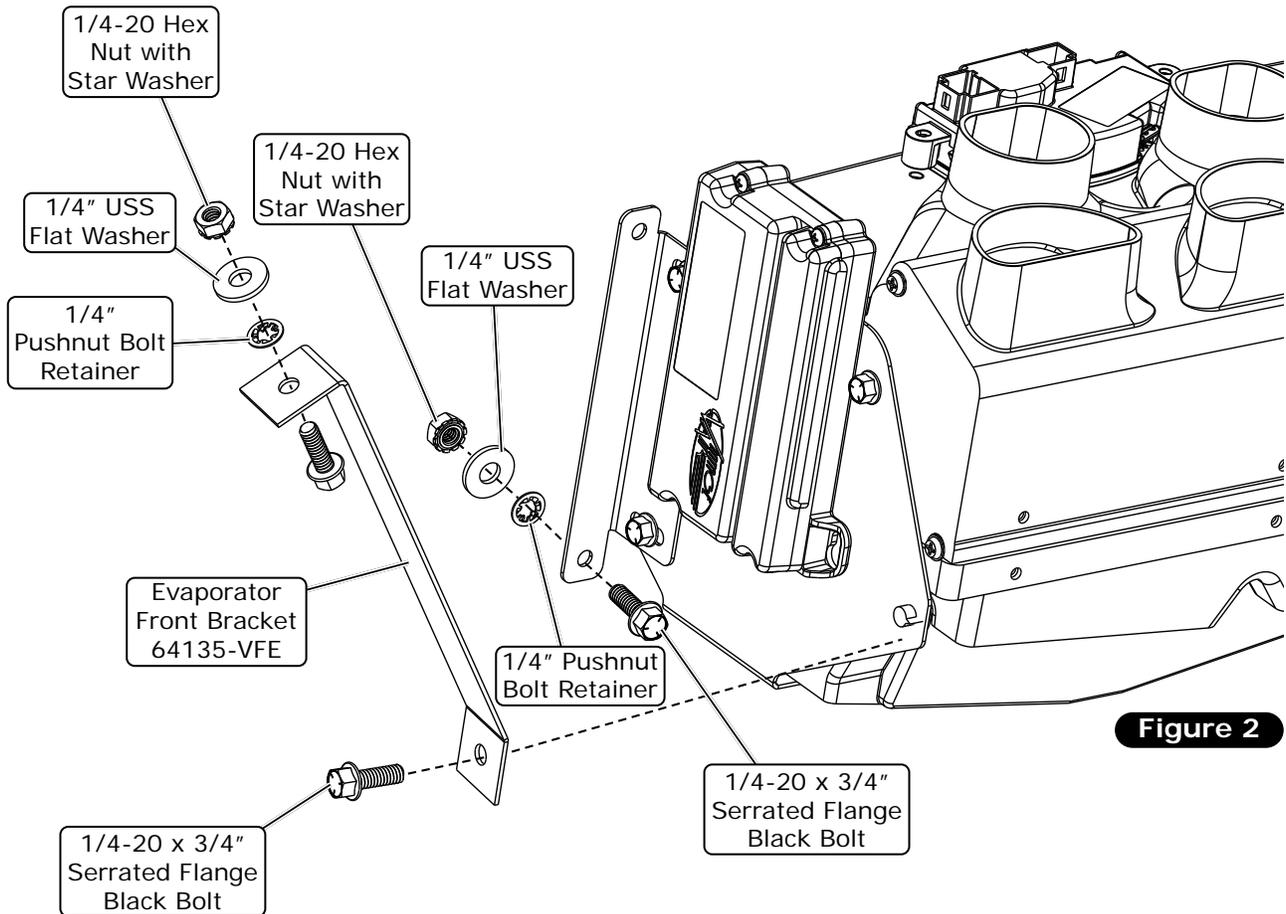

Figure 2
6. Have a helper hold the module up as high as possible, with the blower housing against the passenger-side kick panel. Locate the bracket on the right side of the blower housing with a hole above and below the blower. Scribe through the upper 1/4" hole in the bracket to mark the firewall. Check to see if the location you marked looks correct and will clear obstructions on both sides of the firewall. If so, drill a 9/32" hole in the firewall. Align the evaporator to the firewall by the upper hole of the blower motor bracket with a 1/4-20 x 3/4" bolt, pushnut, washer and nut as shown in Figure 2, Page 11. Level the evaporator module, and use the 1/4" hole in the evaporator driver-side bracket as a guide, mark and drill a 9/32" hole in the firewall. Attach this bracket to the firewall with a 1/4-20 x 3/4" bolt. This will locate the evaporator horizontally. Drill (2) more holes in the firewall using the lower hole in both brackets to mark the centers.
7. The 1/4-20 x 3/4" serrated flange black bolt, 1/4" pushnut bolt retainer, 1/4" USS flat washer and 1/4-20 hex nut with star washer shown in Figure 2, below, on the lower left mounting ear of the evaporator will be repeated four times to secure the case through the .281" holes drilled through firewall.
8. The (2) bolts factory installed through the slotted slide bracket to the driver-side case mounting bracket can be adjusted by the customer to the perfect fit of the case against the firewall. This slot gives the driver side of the case about 9/16" of fore/aft adjustment while the passenger-side mounting points remain fixed. This means that the case can pivot slightly about the (2) passenger-side bolts before all (4) bolts are tightened.
9. In conjunction with the (4) firewall mounting points, we've provided a single mounting point for securing the evaporator to the dash. Secure the evaporator front bracket to the weld nut on the driver-side case bracket down low near the floor duct as shown in Figure 2, below. **NOTE: Use this evaporator front bracket as-is, modify it, or fabricate a custom dash bracket to fit properly.** The dash mounting bracket is secured to the case and dash using 1/4-20 x 3/4" serrated flange black bolt, same as at the firewall.